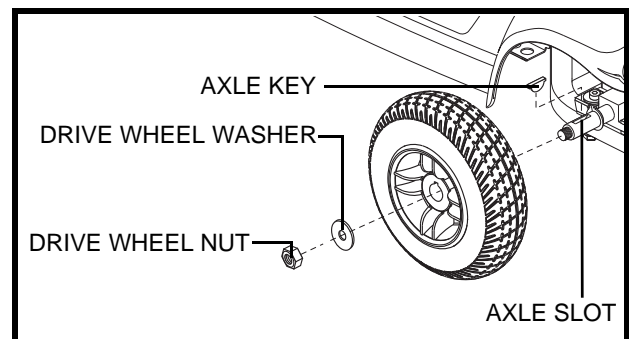

Figure 24. Wheel Replacement
3. Remove the drive wheel nut and washer from the axle. **See figure 24.**